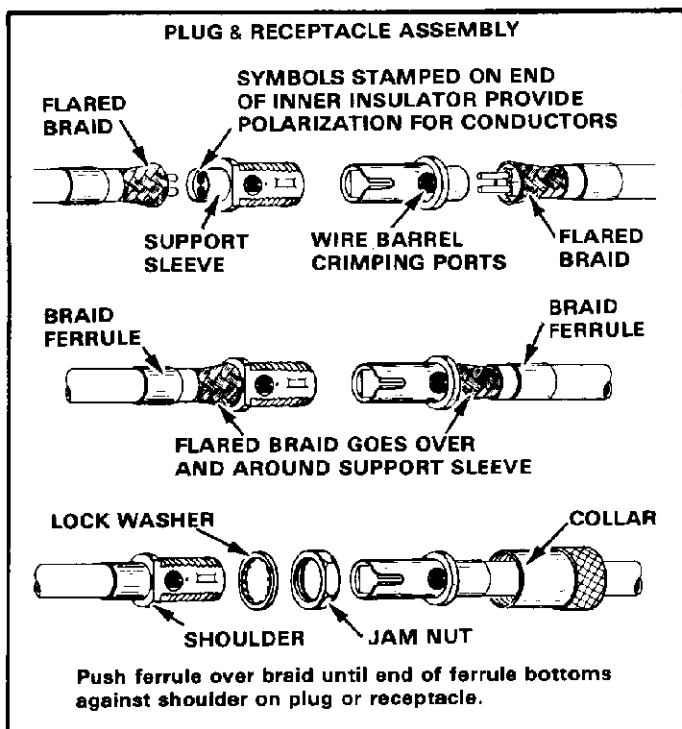

Fig. 3
Be certain that collar has been placed on cable if plug is to be terminated to cable. See Figure 3.
1. Holding the cable, rotate the conductors to flare braid as shown in Figure 3.
3. Slide braid ferrule forward and over the braid until the ferrule bottoms against the shoulder on the connector. See Figure 3.